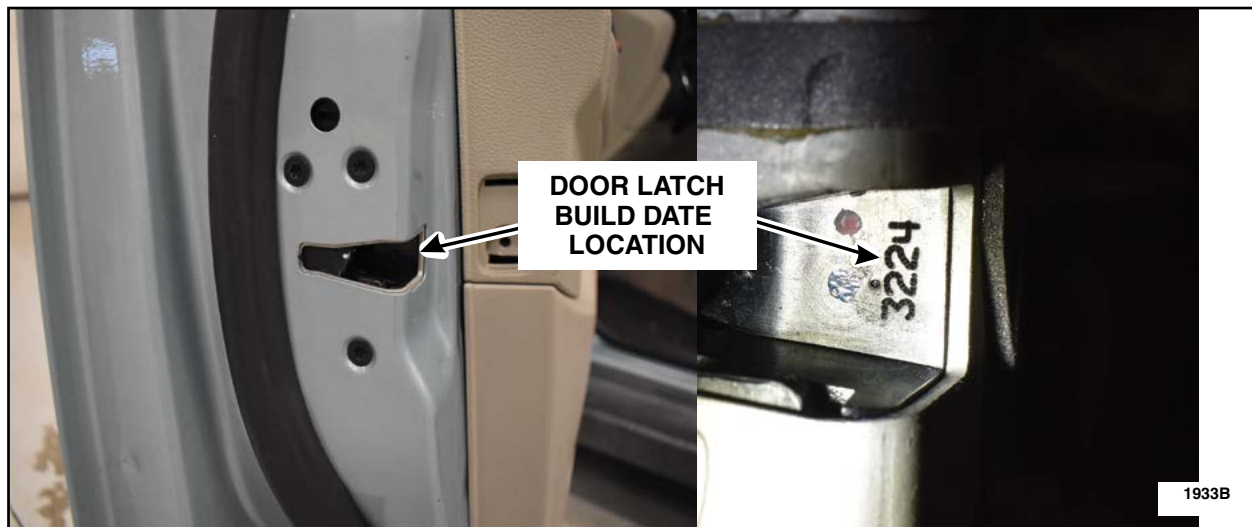

FIGURE 3
4. Once the **new** latches have been installed in the vehicle, record all four date codes of the new latches. Additionally, capture a picture of the date code of each new door latch (four pictures total) showing them installed in the vehicle. These pictures will need to be submitted in the SSSC web questionnaire. See Figure 3.